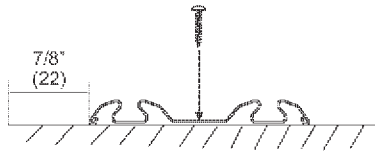

FIGURE 4
Locate leading edge of 16010 floor track 7/8"(22) from front face of jamb, so doors will hang plumb (Figure 4).